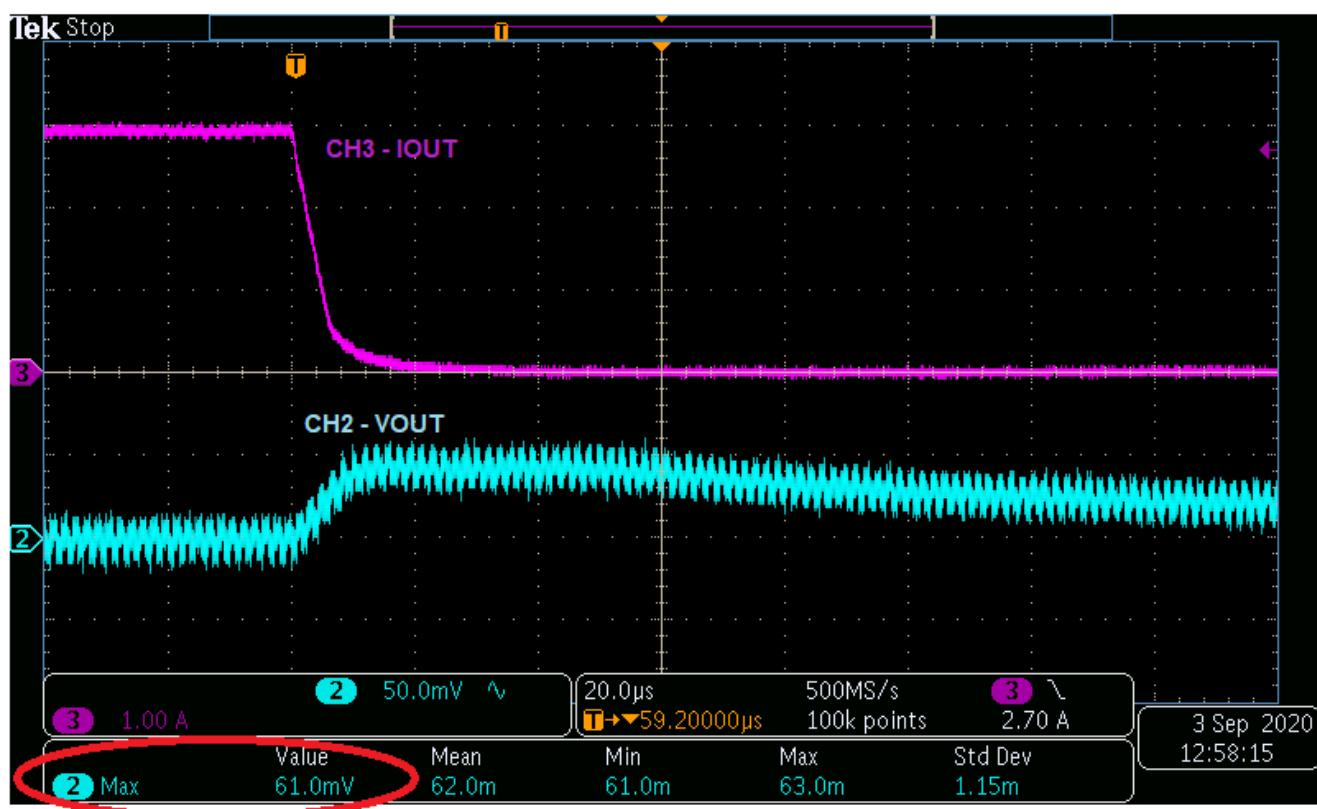

Figure 4-5. Transient Response to Load Step 3 A to 0 A at 1 A/μs
- Change the trigger on CH3 to falling edge to capture the transient response of VOUT to negative current step from 3 A to 0 A as shown in Figure 4-5.